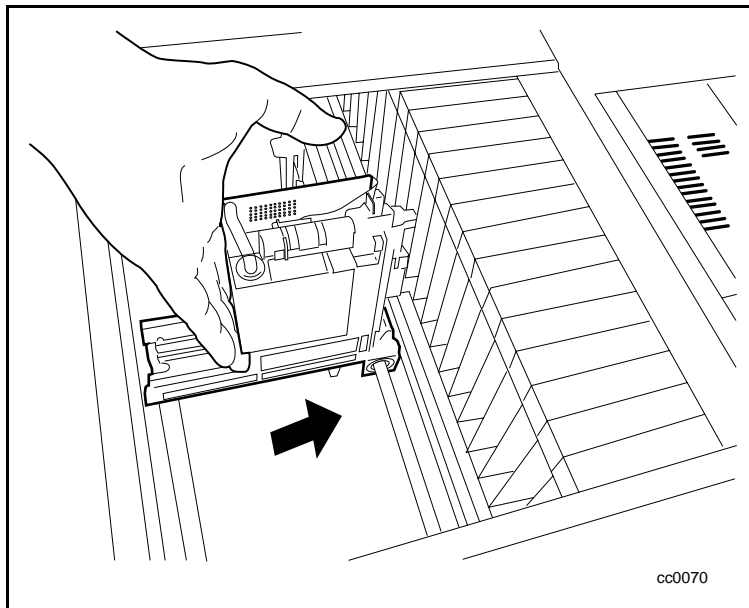

Figure 5-1. Moving the shuttle assembly
2. Pushing only from the bottom of the assembly, move the picker as close as you can toward the magazine (see Figure 5-1).